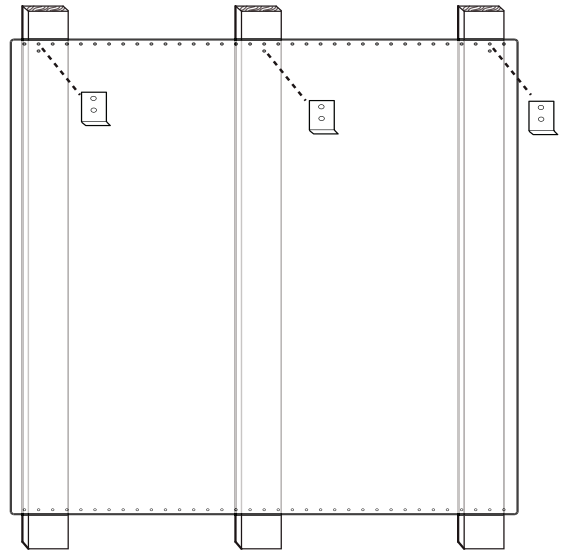

Figure 15: Backsplash with a Keep Hot Shelf
3. At the locations indicated in *Figure 15*, mount the lower shelf brackets included with the Keep Hot Shelf through the Backsplash and into the wall studs.